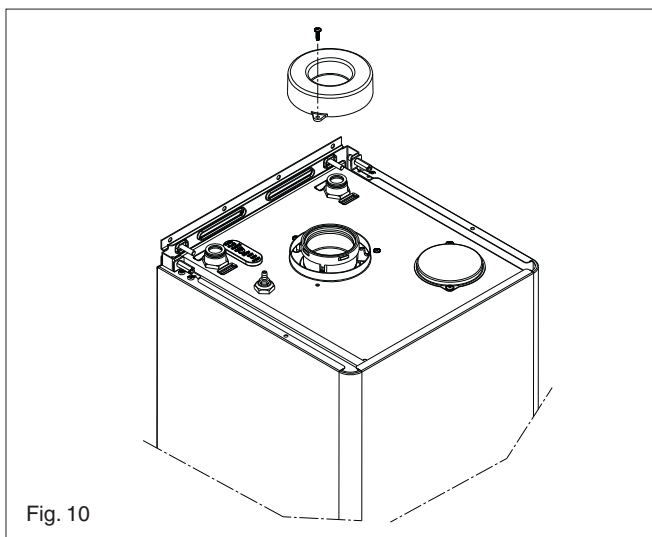

Fig. 10
- Fit the 'flue outlet blanking plate' (supplied within the carton) to the top flue outlet using the screw on the air box (fig. 10).